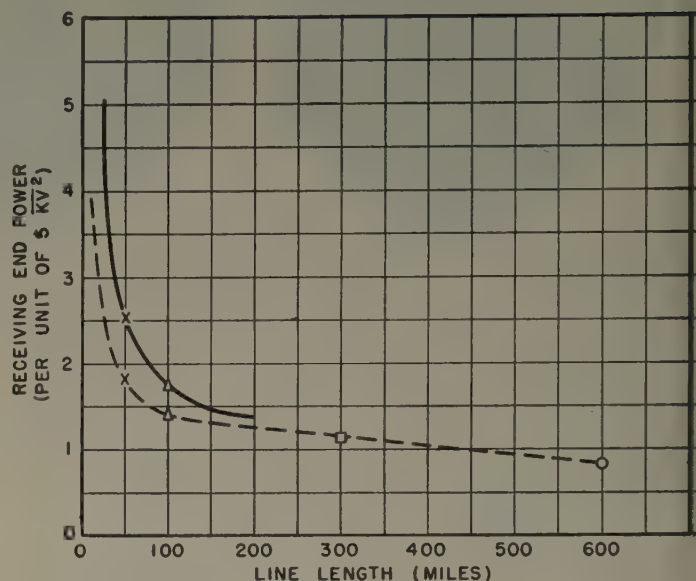

Figure 2. Representative economic power limits for two parallel high-voltage transmission circuits (based on 287-kv system cost data)
end. The antennas vary from simple quarter wave to very complicated high-gain ones. Figure 1 shows a typical British portable set and Figure 2, which shows a Long Beach, Calif., pilot boarding a ship, dramatizes the whole communication problem. In order to gain an over-all appreciation of the harbor surveillance problem, a few typical installations are discussed here.
Figure 2. Long Beach harbor pilot boarding an incoming vessel carrying portable frequency-modulation radio equipment for communicating with the shore-based radar operator
1. The representative economic power limits of two parallel high-voltage transmission lines are shown on Figure 2. By representative economic power limit is meant the power received at the maximum stability limit which can be justified economically from a consideration of the cost of transmission lines, switching stations, compensation, and real and reactive line losses.
2. The basic system configuration which gives the representative economic power limits (Figure 2) essentially is independent of the range of receiving-end reactance considered.